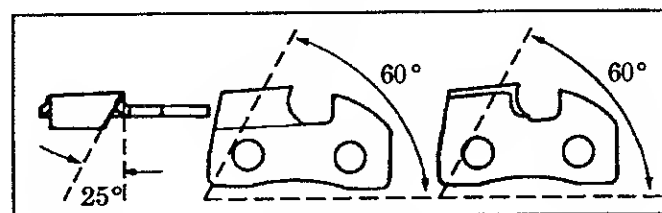

Figure 28
- f.) File chain to meet specifications shown in Figure 28.
Maintain the proper hook angle according to the manufacturer's specification for the chain you are using. Too much hook angle will increase the chance of kickback which can result in serious injury. Figures 28 & 30.